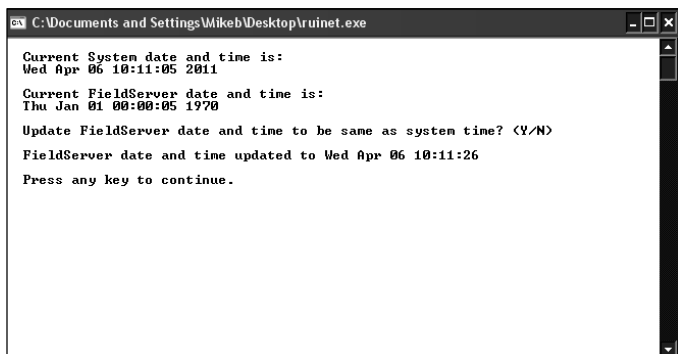

Figure 11: FieldServer Date and Time Updated
3.) Type <Y> to sync the Date/Time on your PC. The following screen will appear (Figure 11). Press any key to continue.